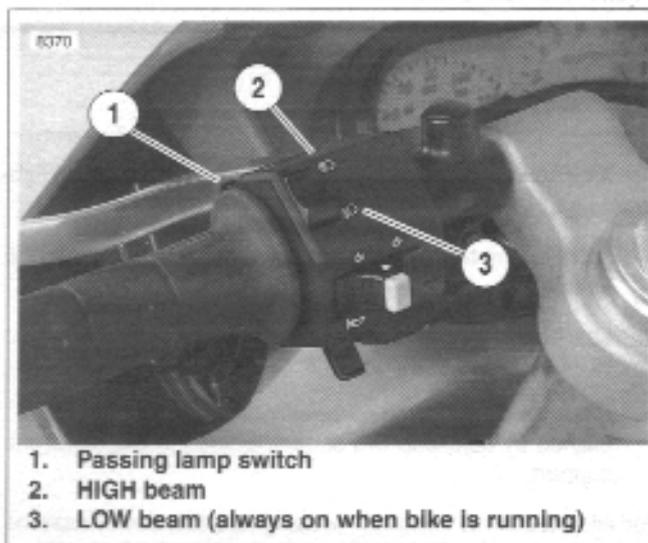

Figure 7-44. Headlight Controls
- b. See Figure 7-44. Check headlight LOW (3) and HIGH beam (2) settings.
- c. Set headlight to LOW beam. Press passing lamp switch (1). Headlight should flash HIGH beam for as long as the switch is pressed.